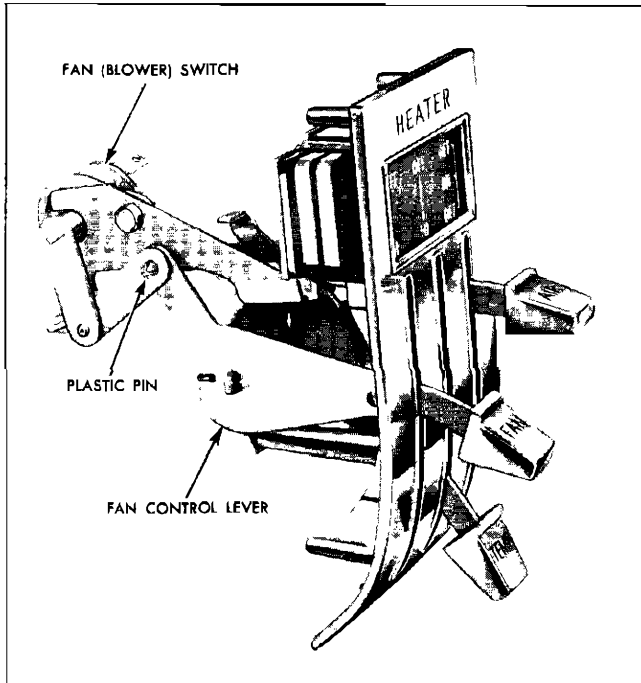

Fig. 3-18 Tempest Control Panel Fan (Blower) Linkage
4. Remove heater blower switch from control assembly (Figs. 3-18 and 3-19).